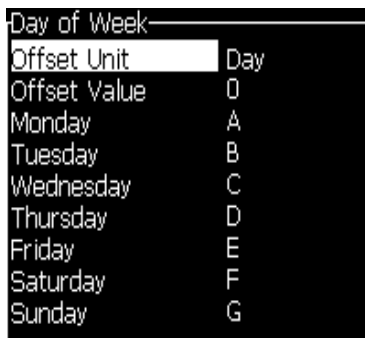

Figure 5-46: Encoded Day of Week
- 3 Select *Setup Encoded Day of Week* and press *Enter* to open the *Day of Week* dialog box (see Figure 5-46 on page 5-48).